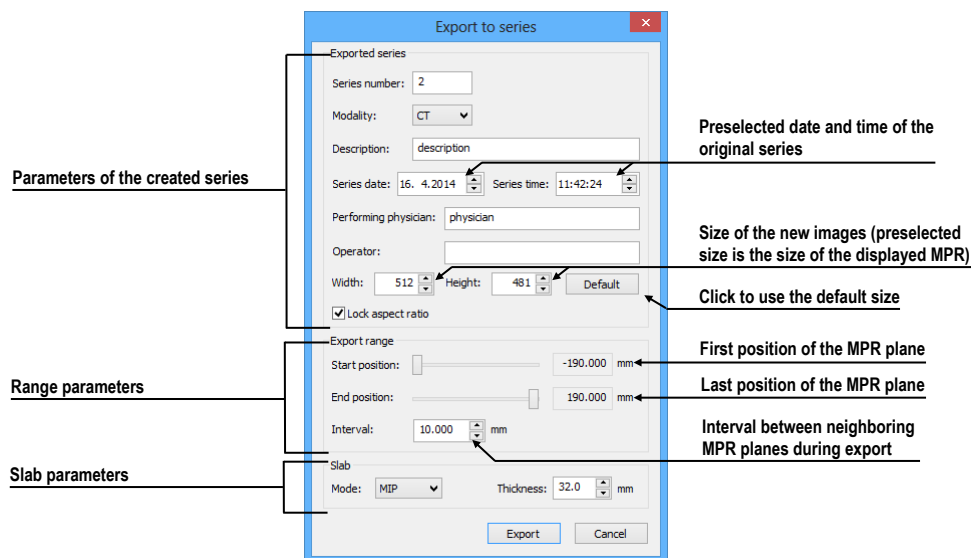

Figure 300 – Export to series dialog
3. The **Export to series** dialog will be displayed in which you can set the parameters for MPR export (see Figure 300).